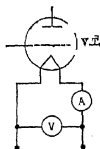

Fig. 15. Measuring the resistance of a vacuum-tube filament.
Prob. 40-1. In Fig. 15 the voltmeter (V) indicates 5 volts and the ammeter (A) 0.25 ampere. What is the resistance of the filament of the vacuum tube?